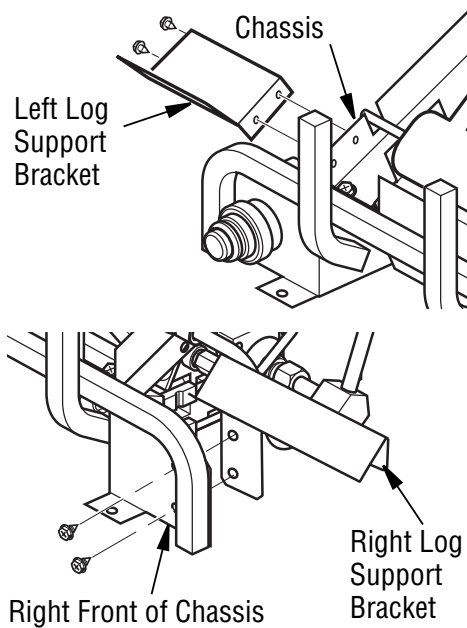

Figure 18 - Installing Log Support Brackets
1. Open equipment shutoff valve (see **Figure 18**).
1. Install left bracket to left side of chassis using 2 screws provided (see **Figure 18**).
2. Install right bracket to right front of chassis using 2 screws provided (see **Figure 18**). This bracket will also be used as remote control bracket if remote is installed.